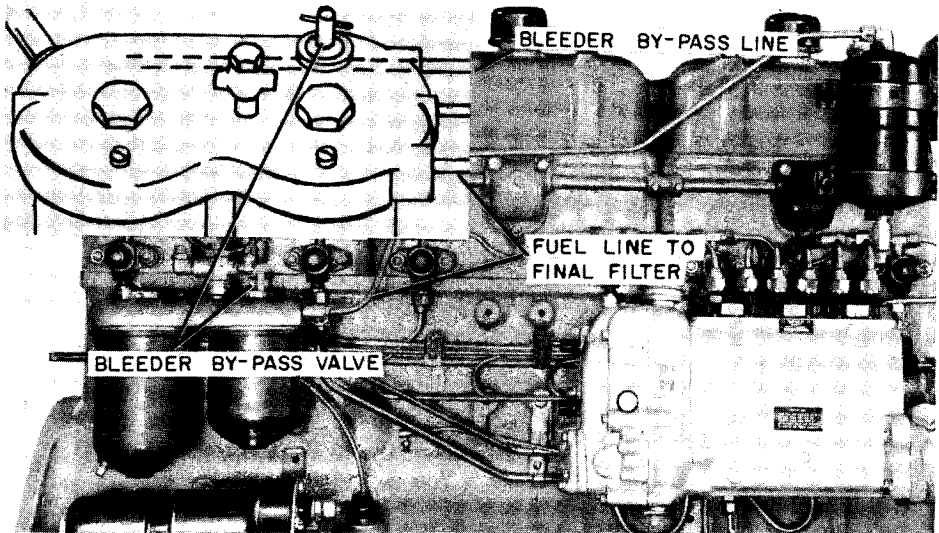

Figure 61
2. Disconnect the 5/16 inch bleeder by-pass line at the by-pass valve, Figure 61. Check the fuel flow. If fuel does not flow freely, the first stage filter is plugged. Reconnect fuel line.
3. Open by-pass valve and disconnect fuel line to final filter, Figure 61. If fuel does not flow freely, the second stage filter is plugged. Reconnect fuel line.